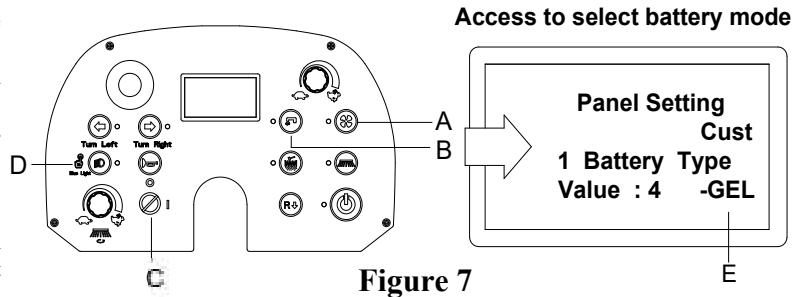

Figure 7
7. Press vacuum button (A, Figure 7) and pump button (B, Figure 7) at the same time.
8. Insert ignition key (C, Figure 7) and turn it to "I".
9. Several seconds later the system enters select battery mode (Figure 7).
10. Release both vacuum button (A, Figure 7) and pump button (B, Figure 7).
11. Press vacuum button (A, Figure 7) and pump button (B, Figure 7) to select battery type (E, Figure 7).
12. Press headlight button (D, Figure 7), about 1 second later the screen displays "Update OK", indicating that battery type is set up, then restart machine. (C, Figure 7).